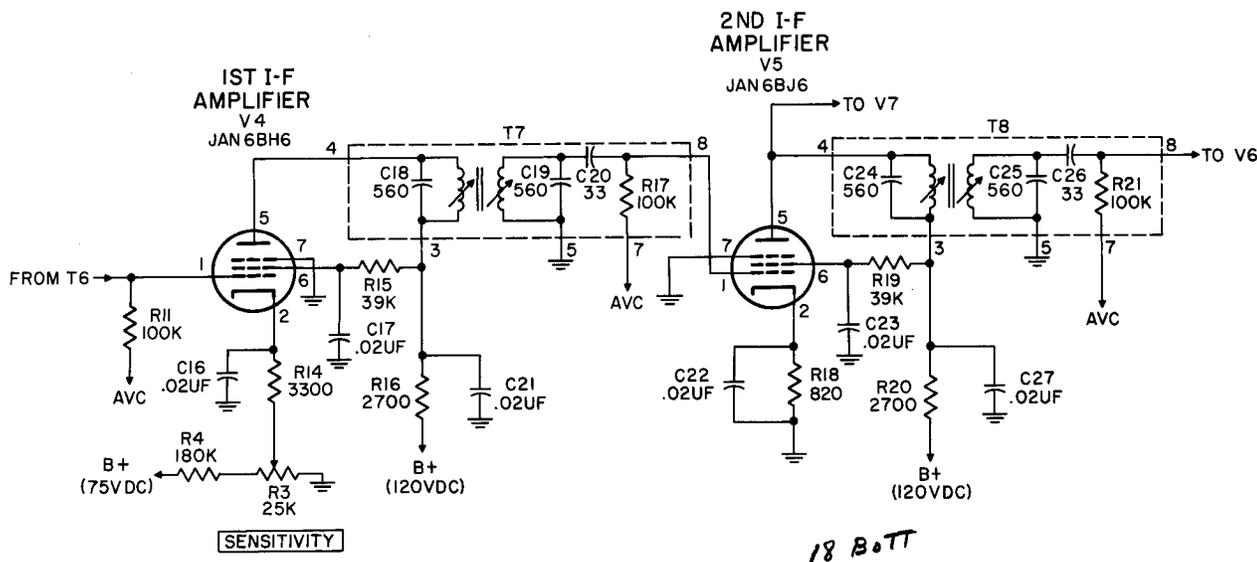

Figure 2-6. First and Second I-f Amplifiers Simplified Schematic Diagram
e. FIRST AND SECOND I-F AMPLIFIER. (Figure 2-6)
(1) The i-f output of the mixer stage is amplified by three i-f amplifier stages operated in cascade. These stages amplify the i-f signal and attenuate any undesired frequencies that may be present in the mixer output. This paragraph discusses the 1st and 2nd i-f amplifiers as a single stage since they differ only in minor details. The explanation of the circuit components of the 1st i-f amplifier will apply to similar components of the 2nd i-f amplifier.
(2) The i-f signal from mixer V2 is inductively coupled to the grid of 1st i-f amplifier V4, a type 6BH6, through transformer T6. Resistor R11 is the grid resistor and it returns the grid circuit to ground, directly or through the AVC circuit. Capacitor C16 is the cathode bypass capacitor and resistor R14, in conjunction with resistor R3, develops the cathode bias. Resistor R15 is the screen dropping resistor and capacitor C17 provides a ground for r-f.
(3) The amplified i-f signal appearing in the plate circuit is coupled to the 2nd i-f amplifier through transformer T7. Capacitors C18, C19 and the variable inductances are resonated at the intermediate frequency of 455 kc. Capacitor C20 prevents the AVC voltage from being shorted to